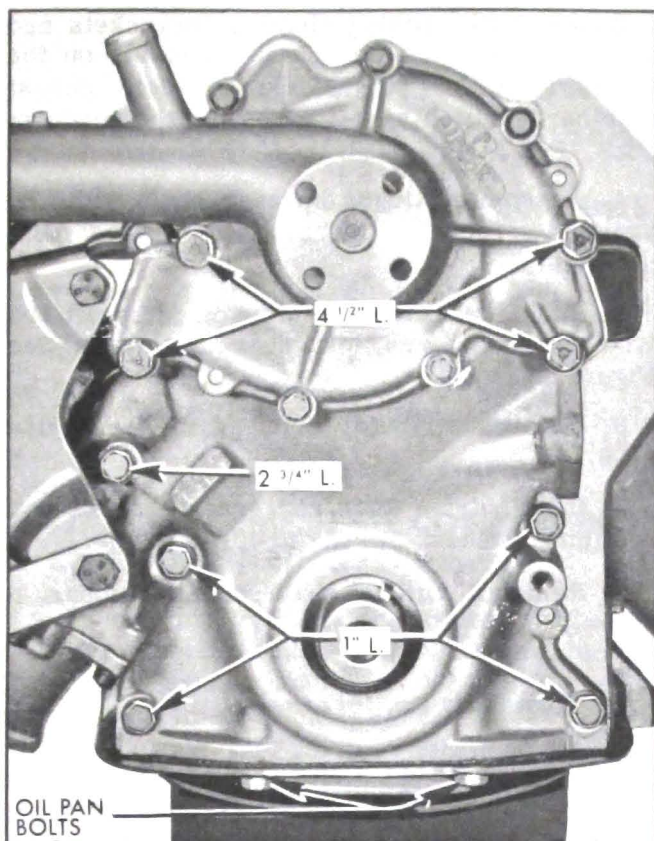

Figure 2-35—Timing Chain Cover Attaching Bolts
12. Remove bolts attaching timing chain cover to cylinder block. Remove two oil pan to timing chain cover bolts. See Figure 2-35. Remove timing chain cover assembly and gasket. Thoroughly clean the cover, taking care to avoid damage to the gasket surfaces.
4. Lube the bolt threads before installation and install them as shown in Figure 2-35.